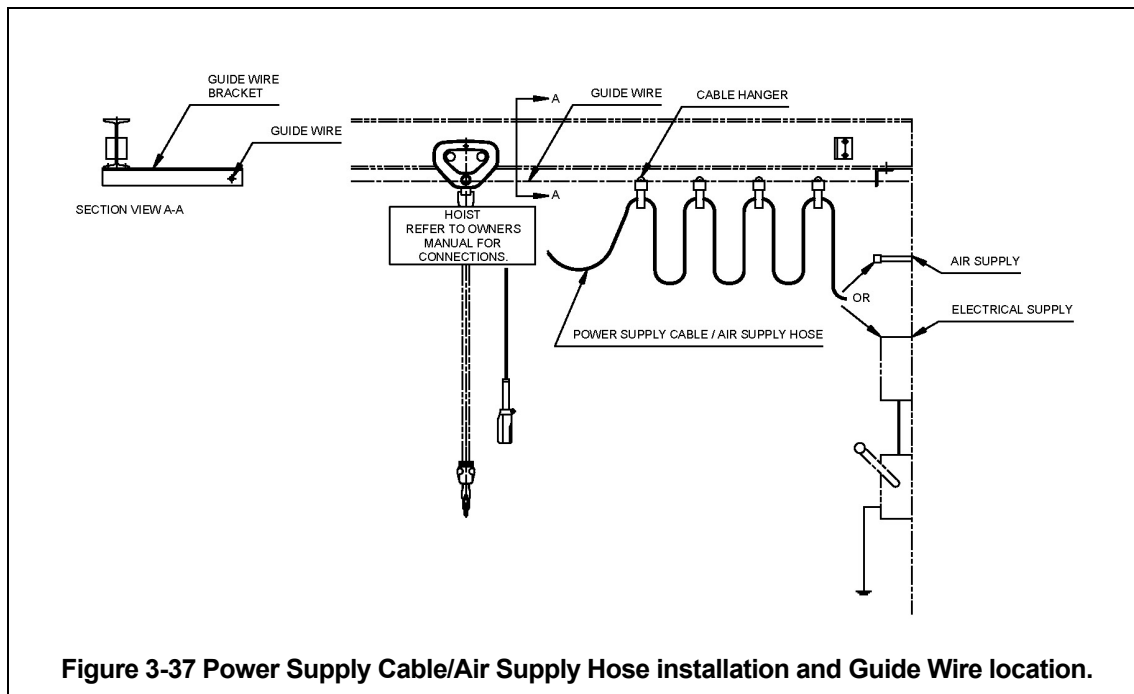

Figure 3-37 Power Supply Cable/Air Supply Hose installation and Guide Wire location.
- Install a guide wire system parallel to the beam. (See **Figure 3-37**)